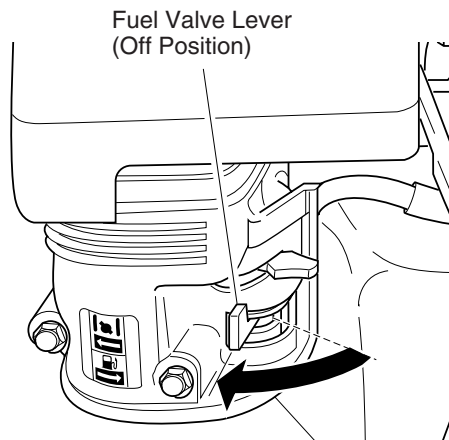

Figure 25 - Fuel Valve Lever Off (Model MGH7000C Shown)
4. Turn fuel valve lever off except model MGH3000PR. Do this by moving valve lever fully to the left (see Figure 25).